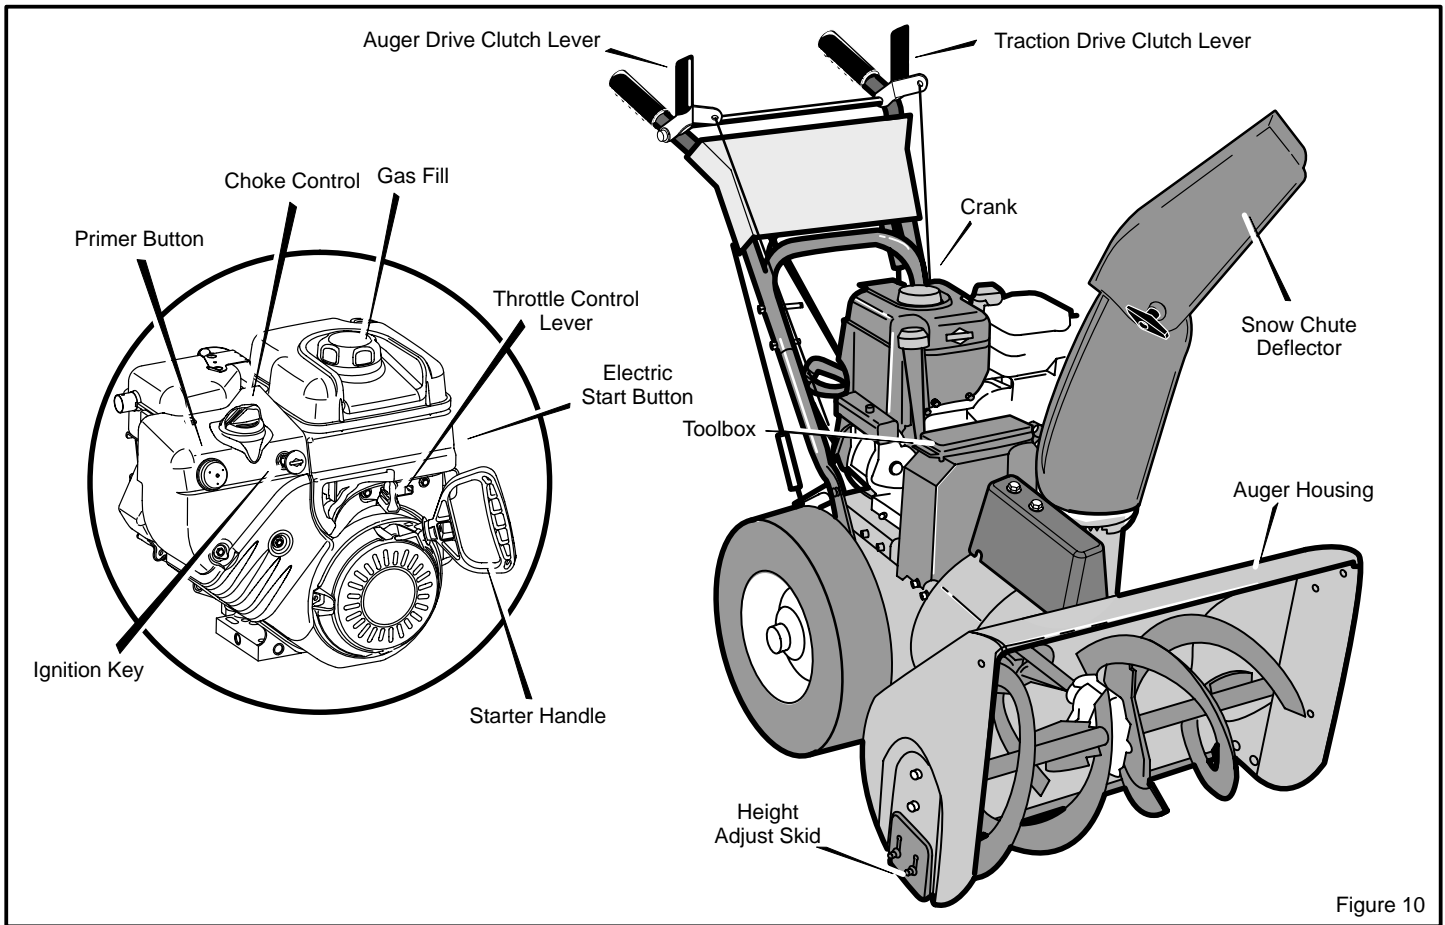

Figure 10
1. Rotate the **crank** to set the direction (left to right) of the discharge chute (see Figure 10).